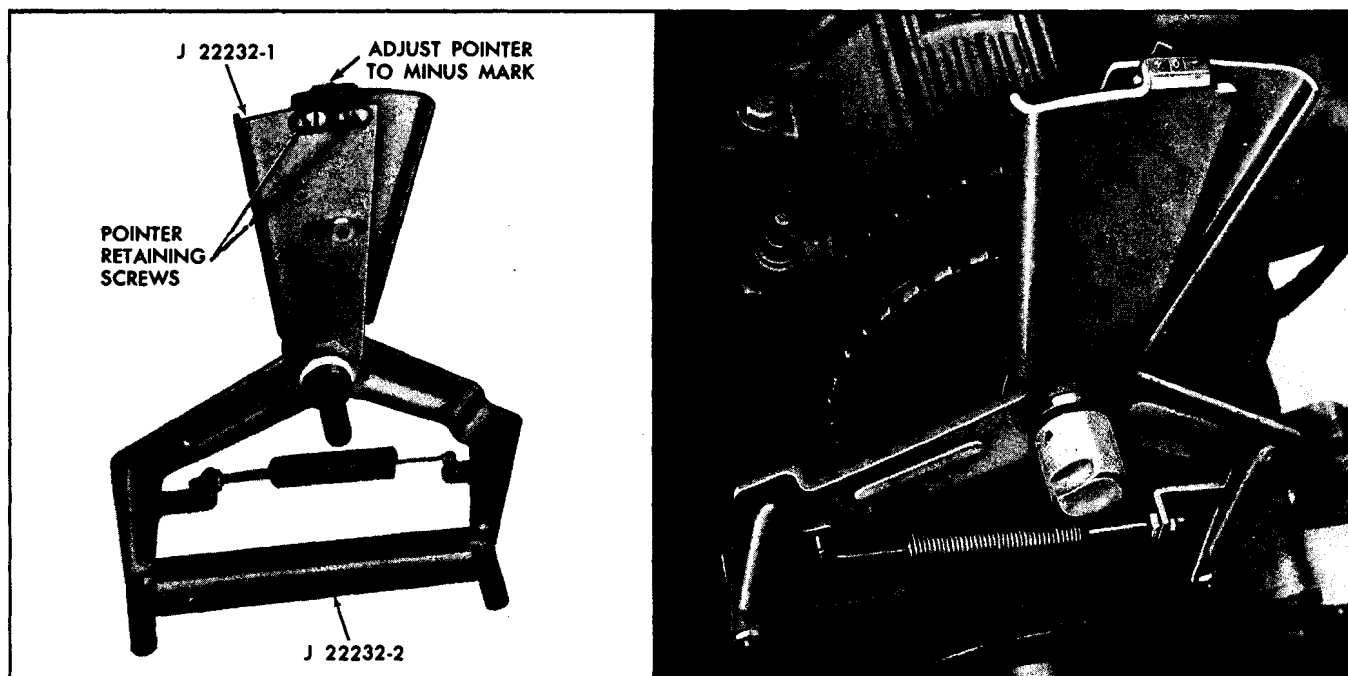

Fig. 6-12 Adjusting Timing Belt Tension
2. Using J 22232-2 calibration bar as shown in Fig. 6-12 set pointer of tension fixture J 22232-1 to line up with mark on minus side.